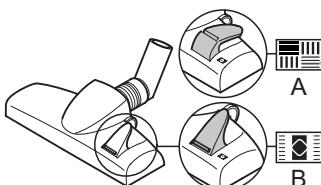

Fig. 12
- Adjust the carpet/hard floor switch (Fig. 12) depending on the type of flooring:
- Hard floor (Fig. 12/A)**
- Carpet (Fig. 12/B)**